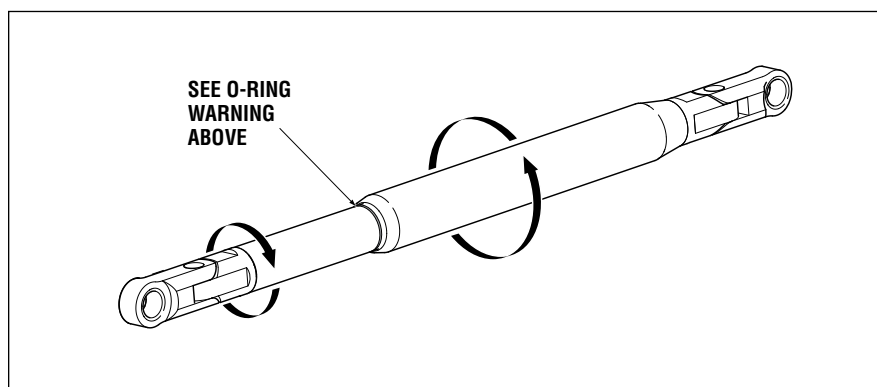

Figure 14.
- Adjust tiebar to correct distance by rotating as shown in Figure 14.